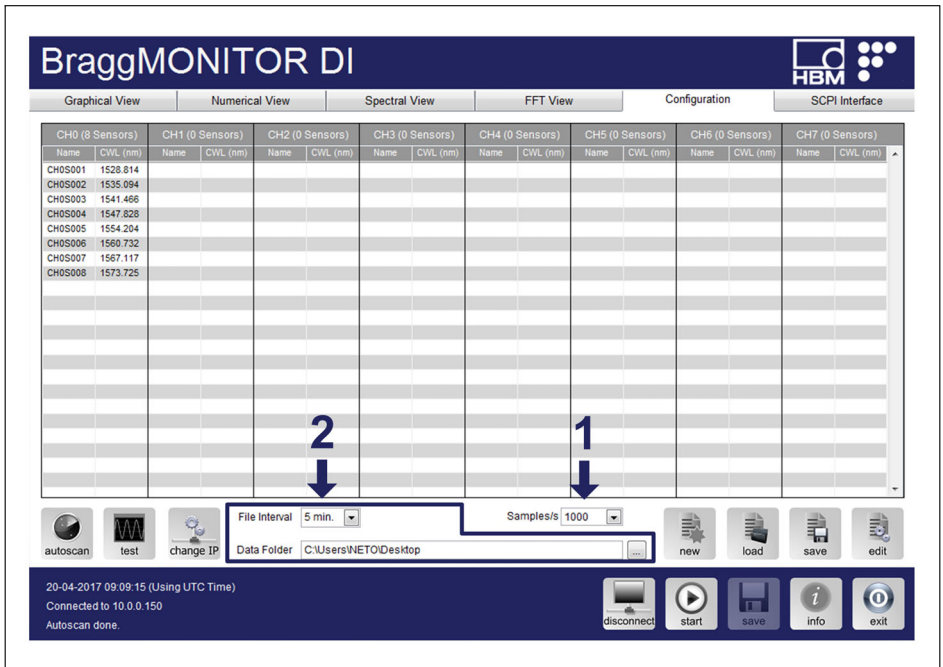

Fig. 4.4
- Measurement acquisition rate (number 1 in Fig. 4.4):
- Data storage settings (number 2 in Fig. 4.4):